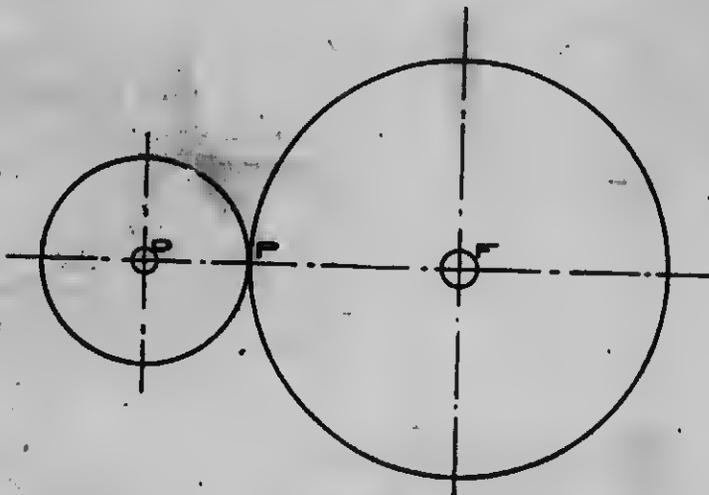

FIG. 1.
If shaft D in figure 1 has fastened to it a disc with a smooth circumference, the disc being in contact at the point P with another disc on shaft F, the rotation of one shaft will cause the other to rotate, provided there is sufficient friction between the two surfaces to prevent slipping.
The term "pitch diameter" is derived from the fact that the two circles shown in Fig. 1 are used as the foundation of a pair of gears and the diameters of the circles become known as the "pitch diameters" of the gears. It will be noticed that these circles must always be tangent, and the point where they touch is known as the pitch point.
**Discussion of Terms.** In Fig. 2, the two circles drawn around the centers D and F and in contact at P correspond to the two circles in Fig. 1, and the gears may be said to be derived from these circles, which are called the "pitch circles." The diameters of these circles are called the "pitch diameters" of the gears. The point P, where the two pitch circles touch each other, is called the "pitch point."